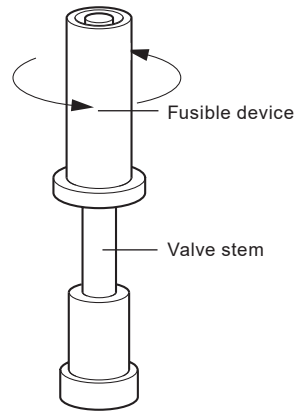

Fig. 8
- The fuse may now be unscrewed from the valve stem and the new one fitted (see Figure 8).